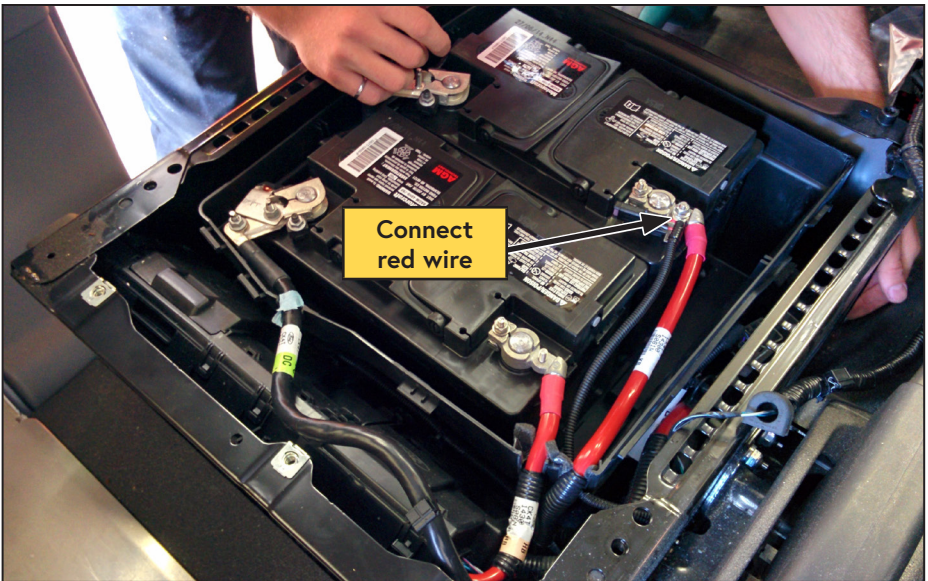

Figure 65 — Connect red wire
- Connect the other end of the fuse holder to the positive battery terminal. (Figure 65).